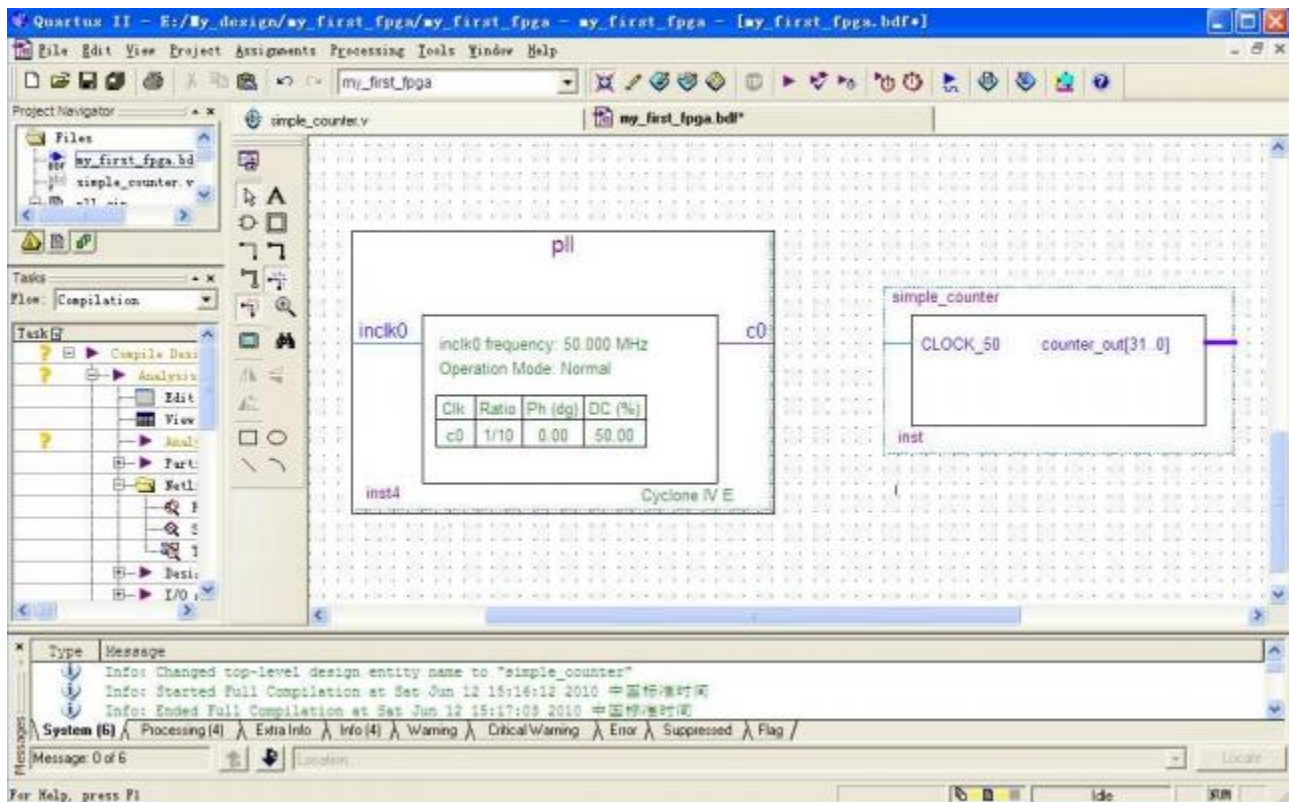

Figure 3-15 Place the PLL Symbol
11. Click OK and place the pll symbol onto the BDF to the left of the simple_counter symbol. You can move the symbols around by holding down the left mouse button, helping you ensure that they line up properly. See Figure 3-15.